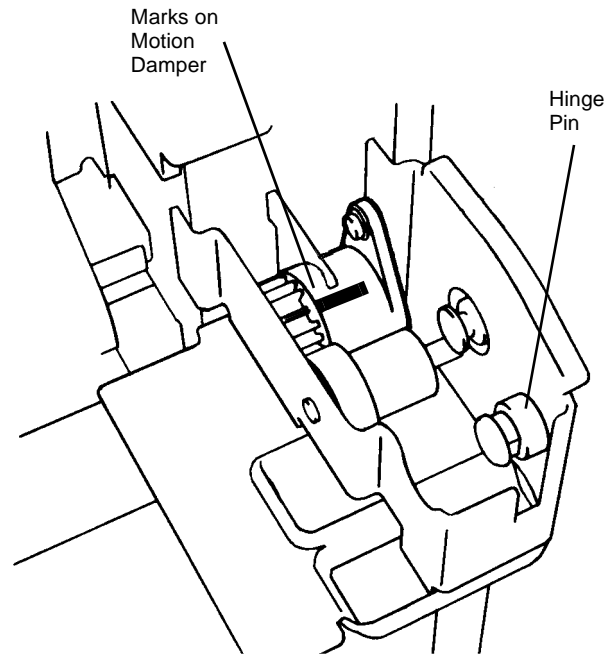

Figure 3 Aligning Marks on Motion Damper
1. Manually align marks on Motion Damper (Figure 3).